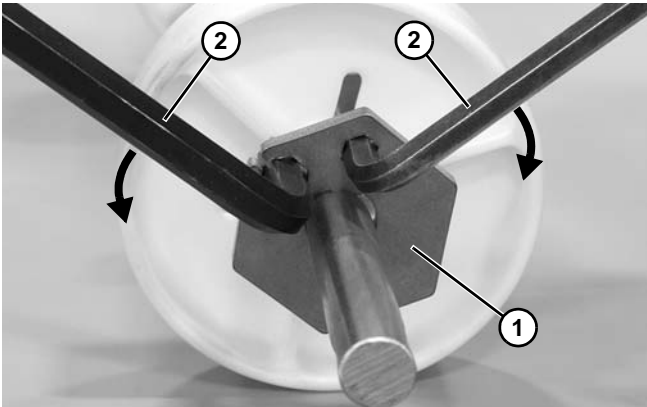

**Figure 14**
- Insert an 8 mm (Figure 14, item 1) and 6 mm (Figure 14, item 2) hex wrench into the retainer plate.
- Move wrenches toward each other to open the retainer plate (Figure 14, item 3) and install onto the shaft. Position retainer plate where needed.